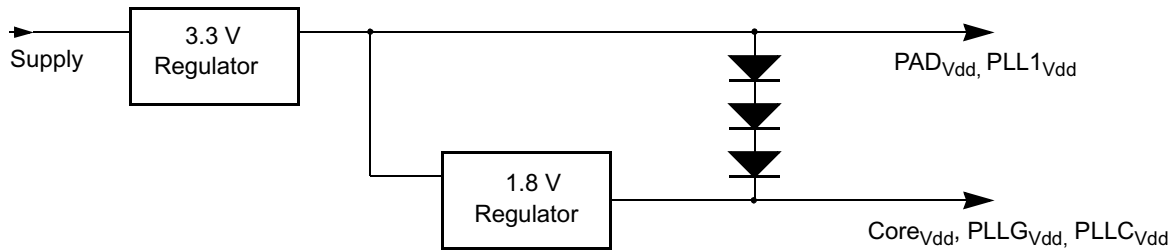
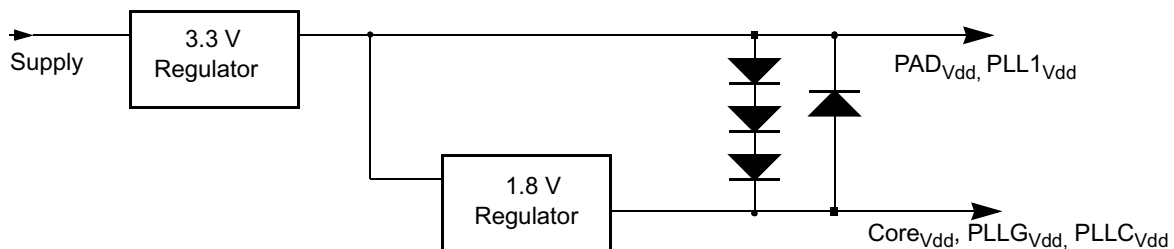

**Figure 21-2 Example Circuit to Control Supply Sequencing**
**Figure 21-3 MCF5249 Power Supply**
Also CoreVdd, PLLGVdd, PLLCVdd supply should not rise so late that a large voltage difference is allowed between the two supplies (2). Typically this situation is avoided by using external discrete diodes in series between supplies as shown in Figure 21-2. The series diodes forward bias when the difference between PADVdd and CoreVdd reaches approximately 2.1V, causing CoreVdd to rise as PADVdd ramps up. When the CoreVdd regulator begins proper operation, the difference between supplies should not exceed 1.5 V and conduction through the diode chain reduces to essentially leakage current.
When a DC-DC convertor is used in the system to generate the 1.8V supply, additional care is required. If possible, the 1.8V DC-DC convertor should be supplied by the 3.3V supply. If this is impossible or considered inefficient, the designer needs to ensure that the rise time of the 1.8V supply still complies with the recommendations stated above. Adding the 3 diodes as shown in Figure 21-2 will help resolve issues associated with a slow rise time of the 1.8V supply. Further, a Schottky diode could be added between the supplies, which would have the effect of holding the 1.8V supply to match the 3.3V supply should the 1.8V supply come-up first. This diode also has the function of ensuring that there is not a large voltage differential between the Core supply and the PAD supply during power-down. See Figure 21-3 below.